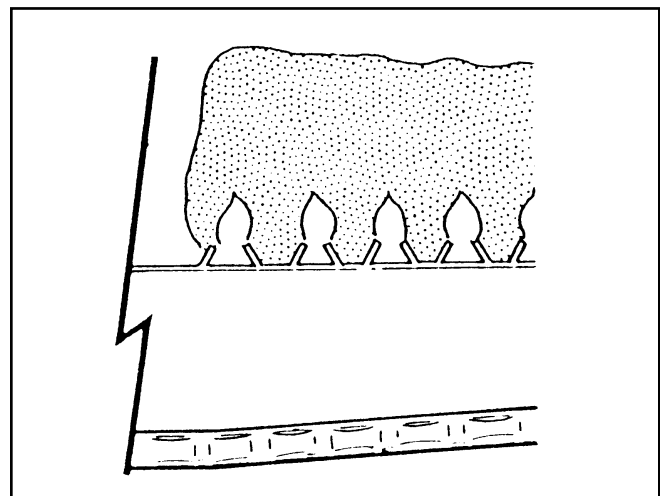

Figure 23. Main Burner Flame
- b. 1 to 4 inches (25mm to 102mm) above burner surface. See Figure 23.